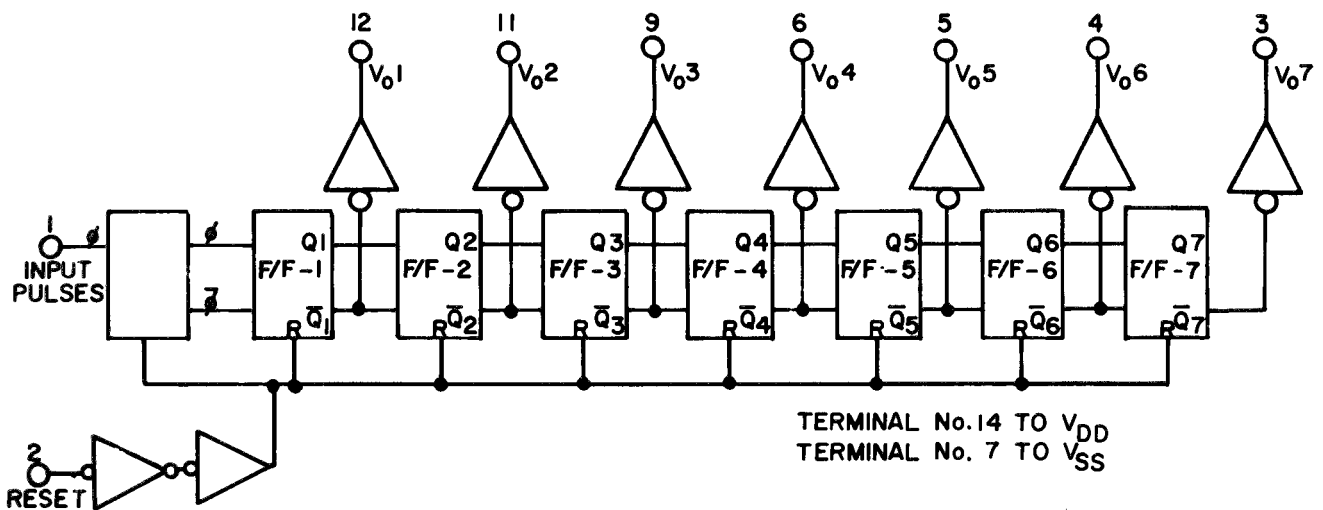

Figure 1-30. Functional Diagram of 7-Stage Binary Counter.
4. Seven-Stage Binary Counter (CD4024AE). This counter consists of an input pulse shaping circuit, reset line driver circuitry, and seven binary counter stages (fig. 1-30). The counter